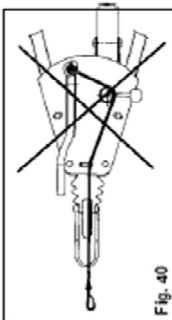

Fig. 40
- 2) The breakaway cable **MUST NOT** be wrapped around the jockey wheel, as this disables the emergency brake (Fig. 40).